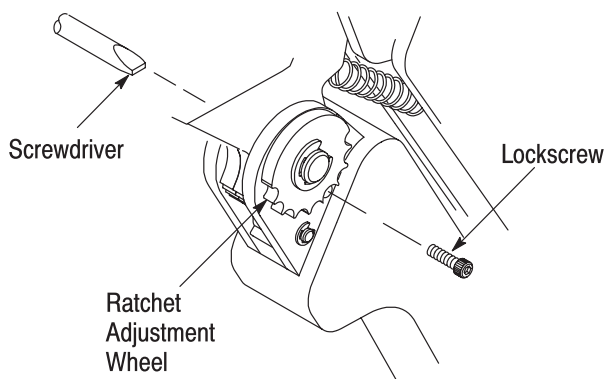

Figure 4
**5. CRIMP HEIGHT ADJUSTMENT** (Refer to Figure 4)